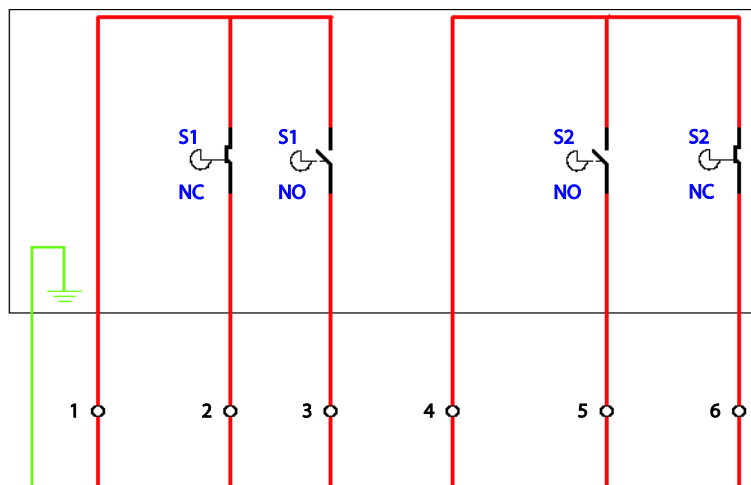

Figure 1.7.2.i End Switch Wiring Schematic
5. Wire the ESPU according to the Valve Proving the End Limit Switch will be required to provide. See the End Limit Switch wiring diagram in Figure 1.7.2.i
End Limit Switches are mounted on the end of bespoke valves (please contact Autoflame regarding bespoke valve manufacture) which are attached to the air and fuel valve and commissioned depending on the use of the End Limit Switches. An End Limit Switch comprises of two switches, as shown in Figure 1.7.2.i. Each comprises of an Earth and 6 connections to be wired as appropriate. The switches S1 and S2 are setup as per on site specification. These are then wired into either or both of the terminals 80, the start position interlock, and terminal 81 purge interlock.